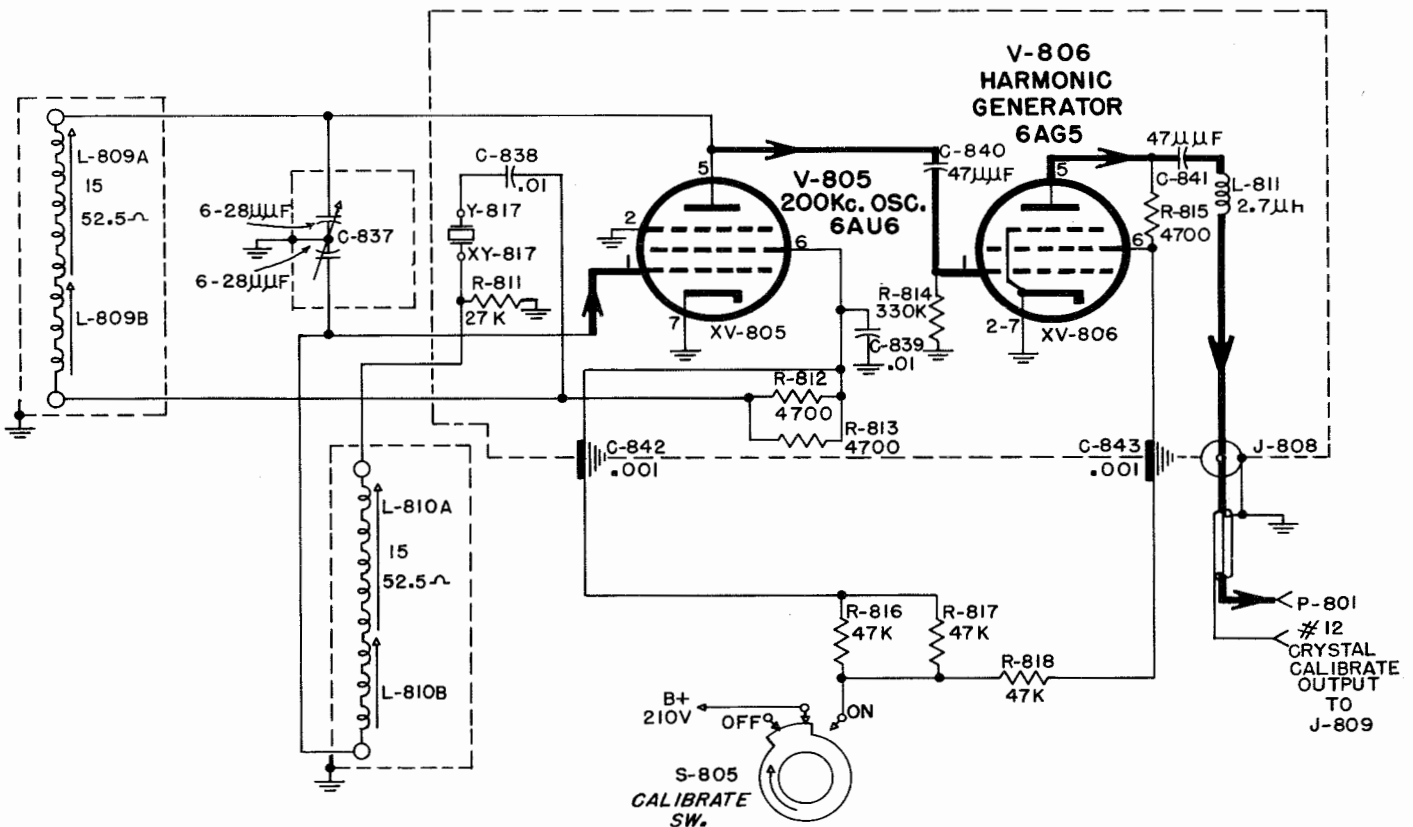

Figure 2-9. 200 kc. Oscillator and Harmonic Generator Stages, Simplified Schematic Diagram
g. 200 KILOCYCLE OSCILLATOR AND HARMONIC GENERATOR (O-131/FRR-24). (See Figure 2-9).—A crystal calibrator comprised of a 6AU6 tube V-805 in a 200-kc. crystal oscillator circuit and a 6AG5 tube V-806 harmonic generator and amplifier provide tuning markers to check the accuracy of the frequency calibration of the R.F. amplifiers. Inductors L-810 and L-809 are connected in series, shunted by C-837 to form the oscillator tuned circuit. The inductors are fitted with variable iron cores and the capacitor is variable to resonate these components to the actual crystal frequency. Plate voltage to the oscillator is supplied through resistors R-816, R-817, R-812, R-813 and inductor L-809. Screen voltage is applied through resistors R-816 and R-817 bypassed by capacitor